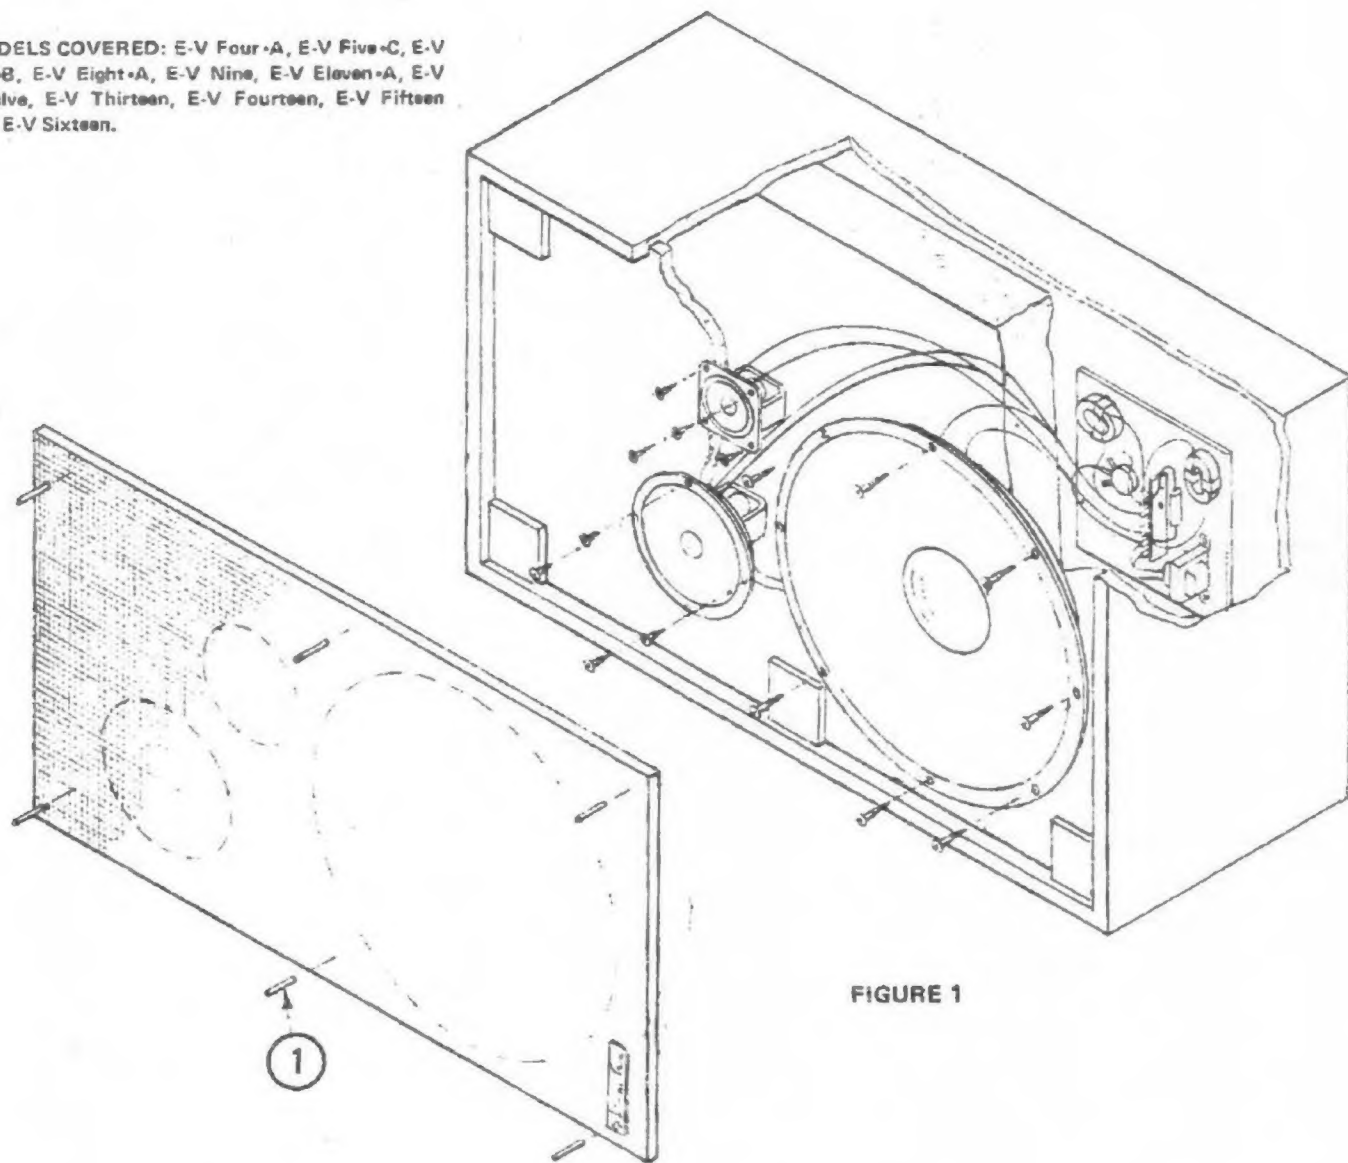

FIGURE 1
1. The Grille Assembly on all Electro-Voice front-loaded bookshelf speaker systems is secured with Spotnail Pins (1). Locate these pins in grille cloth web and carefully drive 1/8-inch into enclosure with small punch or nail (Figure 1). All models contain (6) six pins except E-V Eight-A, which contains (4) four pins. 1 1/2-inch should be sufficient to free the grille assembly from Spotnail Pins. Slight air leaks may develop if a pin punctures the inner enclosure space. The pins should be left in the enclosure if they are not to be reused. See Grille Cloth reassembly.)